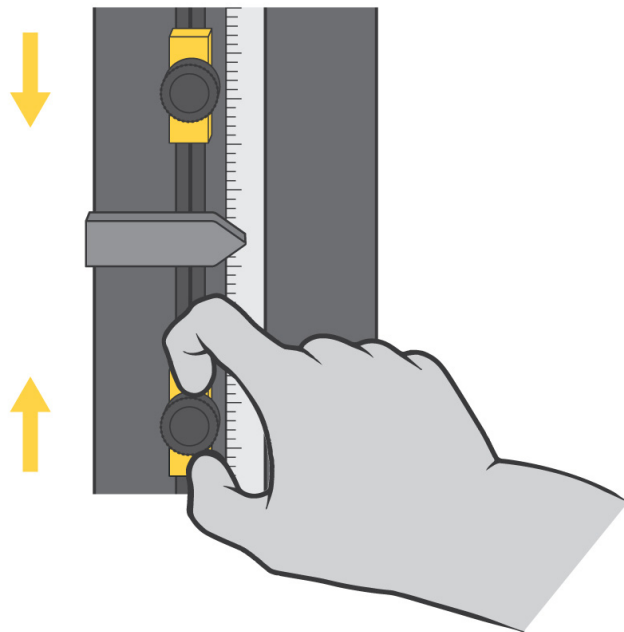

Figure 11. Setting Limit Stops
The crosshead limit stops are two adjustable blocks mounted on the limit switch rod, which is located inside the column of the machine, as shown in Figure 11 on page 86. Limit stops (1 and 2) have thumbscrews that you tighten and release by hand, and you can move them to any position on the limit rod. Position these stops just beyond the test parameters to prevent crosshead over-travel. When the crosshead reaches the maximum pre-set travel, the limit switch actuator (3) contacts one of these stops. Contact between the limit actuator and the limit stop moves the limit switch rod (4) and activates the limit switches. This stops crosshead motion.